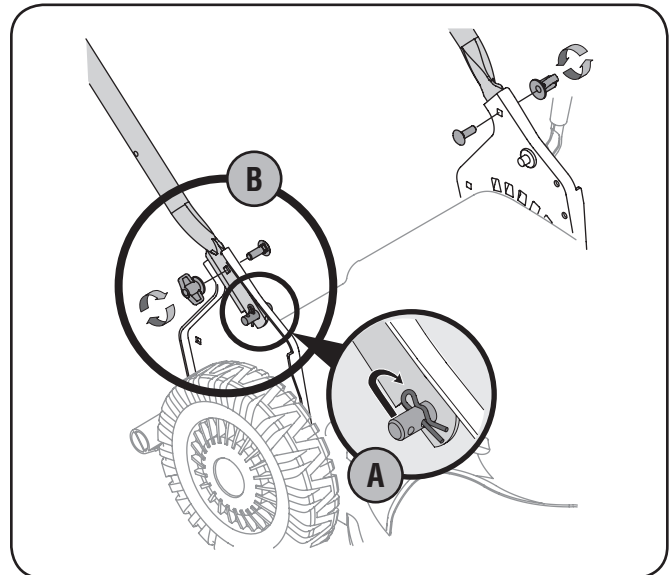

Figure 3-2
- a. Remove hairpin clip from this hole. Using a pair of pliers, insert hairpin clip into the hole on pin closest to the bracket. See Figure 3-2. Repeat on other side.